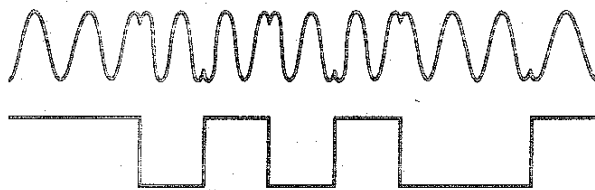

FIGURE 14-2. Waveform of a signal that a simple PSK modem will send out for the binary data 011010100. (Answer to question 14-13a.)
5. After the terminal power is turned on and the terminal runs any self-checks, it asserts the  $\overline{\text{DTR}}$  signal to tell the modem it is ready. When it is powered up and ready to transmit or receive data, the modem asserts the  $\overline{\text{DTR}}$  signal to the terminal. When the terminal has a character to send, it asserts an RTS signal to the modem. The modem then asserts its CD to the terminal to indicate that it has made contact with the computer. When the modem is ready to transmit data, it asserts the CTS signal back to the terminal. The terminal then sends serial data characters to the modem. When the terminal has sent all the characters it needs to, it makes RTS high, which causes the modem to unassert its CTS signal and stop transmitting. See also Figure 14-2 on page 489 of the text.
13. a. Figure 14-2 shows the waveform of a signal that a simple PSK modem will send out to represent the binary data 011010100.